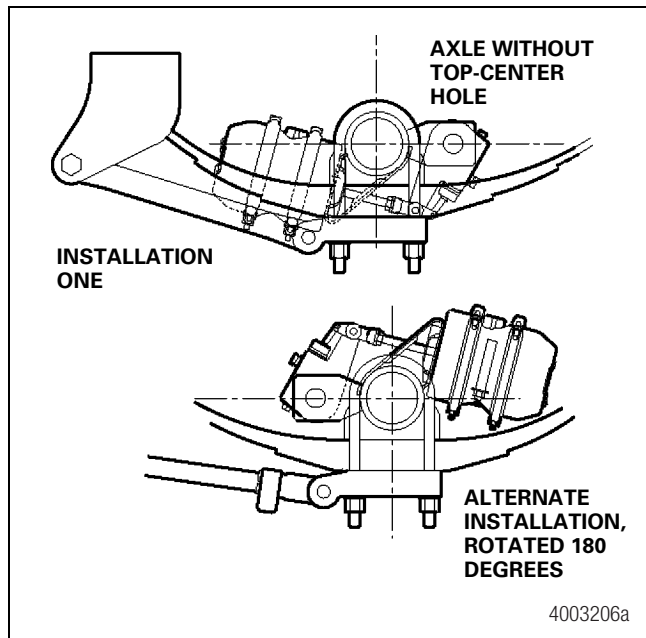

Figure 6.3
- On axles built without a top-center hole, the axle can be rotated 180 degrees. Therefore, the axle top and bottom are interchangeable. Figure 6.3.
- On axles built without a top-center hole, the axle can be rotated 180 degrees. Therefore, the axle front and rear are interchangeable. Figure 6.3. For these models, use the brake installation guidelines in this section.